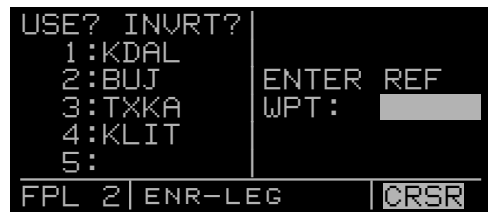

Figure 5-90
7. Press **ENT** once again to approve the waypoint page for the Reference Waypoint and insert it into the flight plan (figure 5-90).
After the Center Waypoints have been inserted into a flight plan, you may go back and view the CTR 2 pages at any time. As long as you keep the same flight plan page displayed on the left side of the screen, you may view the Center Waypoints on the CTR 2 page(s) by merely displaying the CTR 2 page(s). However, the CTR 1 and CTR 2 pages revert to the format of figure 5-90 anytime you leave the specific flight plan page on the left side and then return to it. Under these circumstances you must press **ENT** to view the Center Waypoints on the CTR 2 page(s).